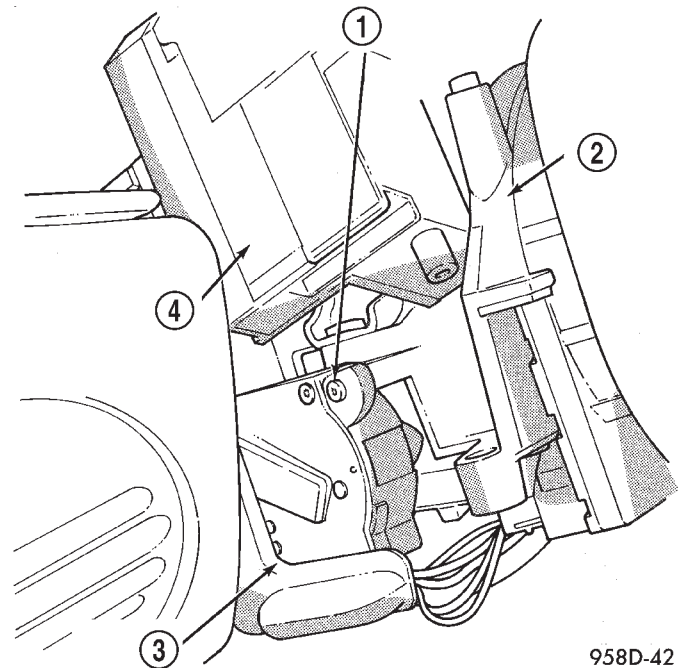

Fig. 24 Ignition Switch
(13) Disconnect electrical connectors from ignition switch (Fig. 24) and (Fig. 25).
(14) Remove ignition switch mounting screw (Fig. 24) with a #10 Torx® tamper proof bit.
(1) Ensure the ignition switch is in the RUN position and the actuator shaft in the lock housing is in the RUN position.
(2) Carefully install the ignition switch. The switch will snap over the retaining tabs (Fig. 26). Install mounting screw (Fig. 24).
(3) Install electrical connectors to ignition switch.
(4) Install upper and lower shrouds.
(5) Install key cylinder (cylinder retaining tab will depress only in the RUN position).
(6) Connect negative cable to battery.
(7) Check for proper operation of ignition switch and key-in warning switch.